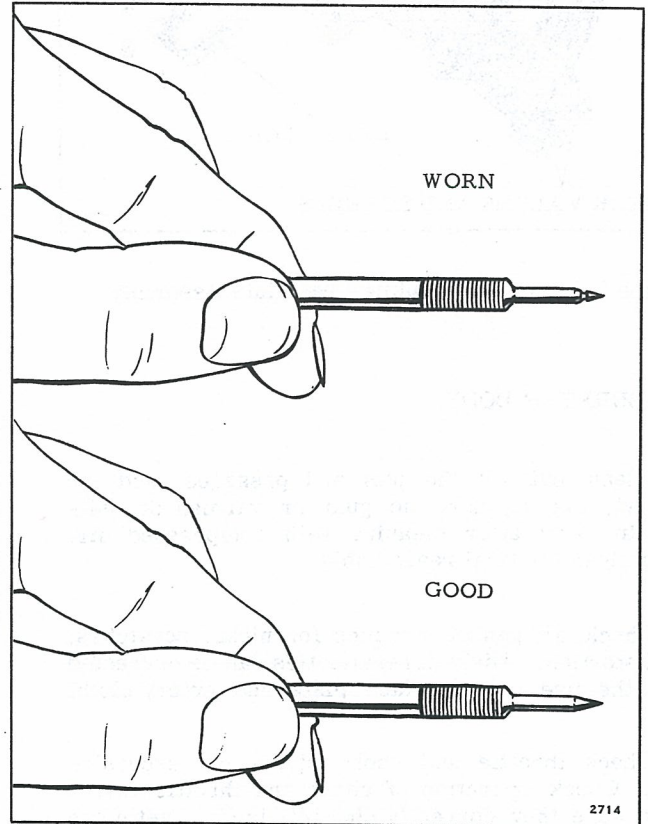

Figure 3-11. Low-Speed Needle Wear
a. Inspect the tapered end of the low-speed needle valve for grooves, nicks, or scratches; replace if necessary. See Figure 3-11.